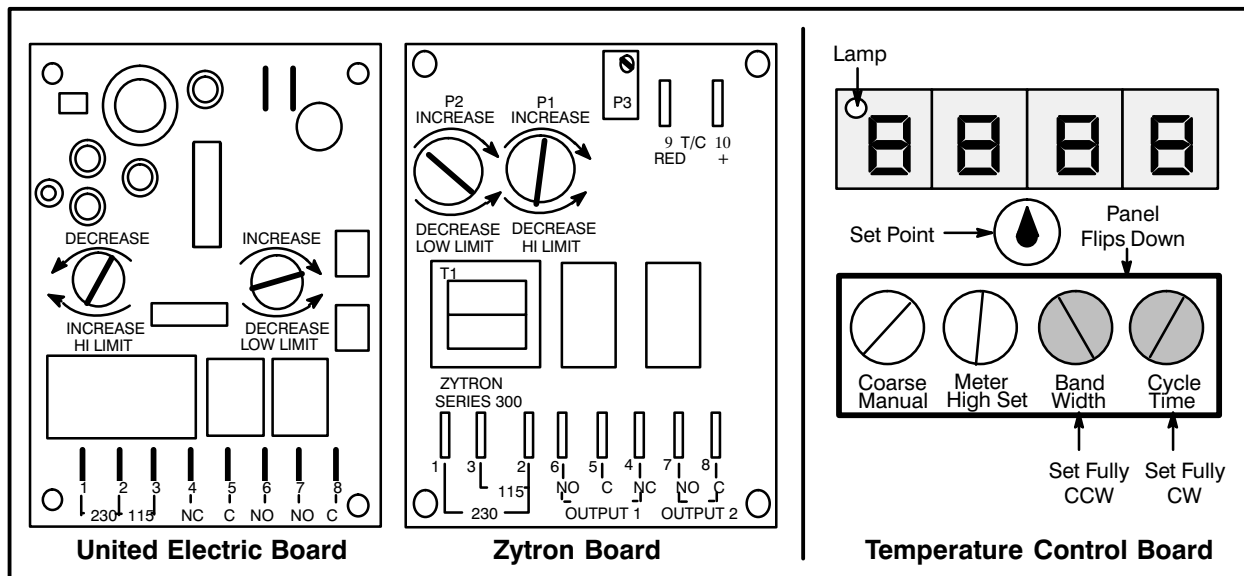

FIGURE 7
4. To adjust the temperature, turn the low-limit potentiometer. A clockwise rotation increases the setting, counter-clockwise decreases it. See FIGURE 7.
2. Adjust the set point for 500°F (260°C). Monitor the Indicator Lamp. See FIGURE 7. When the lamp goes out, compare the pyrometer with the temperature of the display. If the display differs by +/-5°F (3°C), open the access panel on the temperature controller and continue with STEPS 3 and 4.
2. Set the temperature to 620°F (327°C). When the display reads 600°F (316°C), the burner blower motor should shut off. If the temperature rises above 600°F (316°C), adjust the hi-limit pot (See FIGURE 7) so the burner shuts off at 600°F (316°C). A clockwise rotation of the high-limit pot increases the temperature, counter-clockwise decreases it.